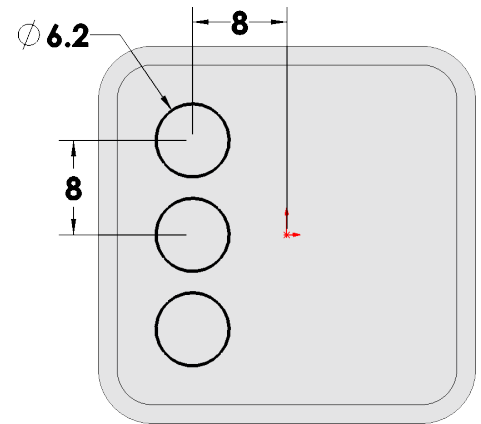

Fig. 22
Step 12. Click **Smart Dimension**  (S) on the Sketch toolbar.
Step 13. Add dimensions, **Fig. 22**.